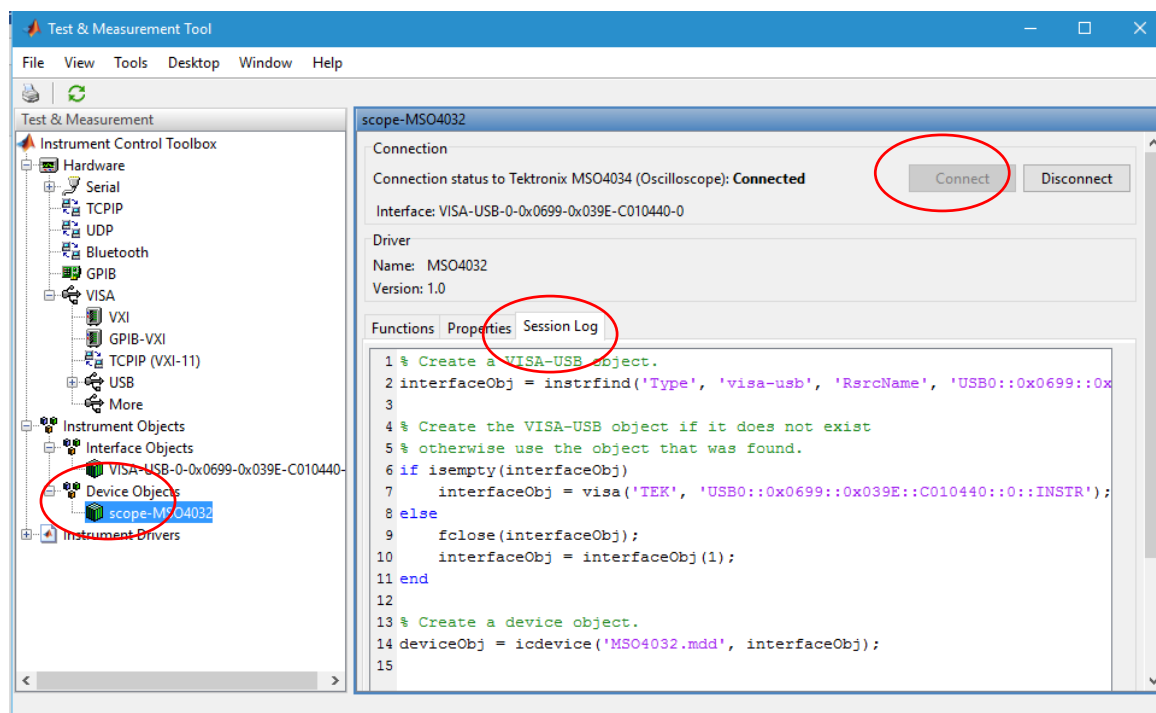

Figure 6 : Connecting to the oscilloscope
Now click on the created object and click *connect* as shown in figure 6. After it connects click on *Session Log* to view the code to connect to the oscilloscope. Then change the respective part in the *collect.m* oscilloscope according to this code.
- After measuring power if you cannot derive the correct key use the average function in the oscilloscope and check whether the power trace looks like Fig. 6 in the paper, if it is not and your average trace is almost null then check if the oscilloscope probes have been correctly connected without shorting the resistor. Also check if the power measurement resistor value is too small.